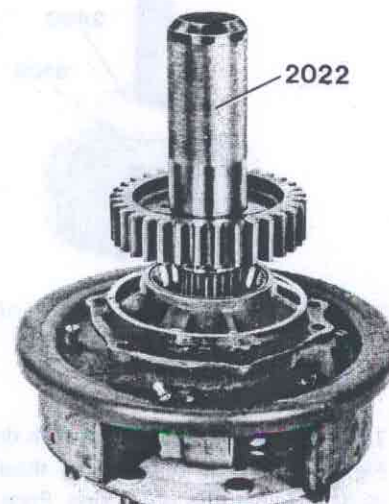

Fig. 77-20. Installing the gear wheel
- Press down the gear wheel with sleeve 2022 so far that the hub has a clearance of a small fraction of an inch, Fig. 77-20, while rotating the hub at the same time in order to make it easier for the gear wheel to fit into the inner sealing ring. Fit the O-ring, the washer with the sealing agent on the underside and a new nut. Pull down the gear wheel with the nut so that the clearance disappears.